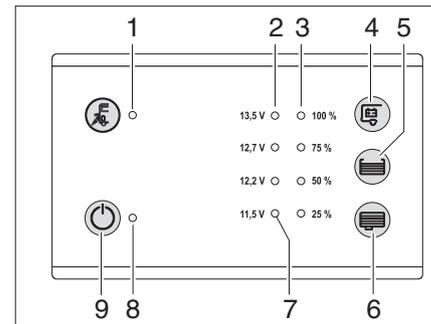

Fig. 70 Panel LT 100
- ▶ Touch the main switch 12 V ON / OFF sensor touch field (Fig. 70,9) .
- ▶ Touch the sensor touch field for checking battery voltage living area battery (Fig. 70,4) :
- ▶ Touch the sensor pad for checking tank level water (Fig. 70,5) or waste water (Fig. 70,6) .